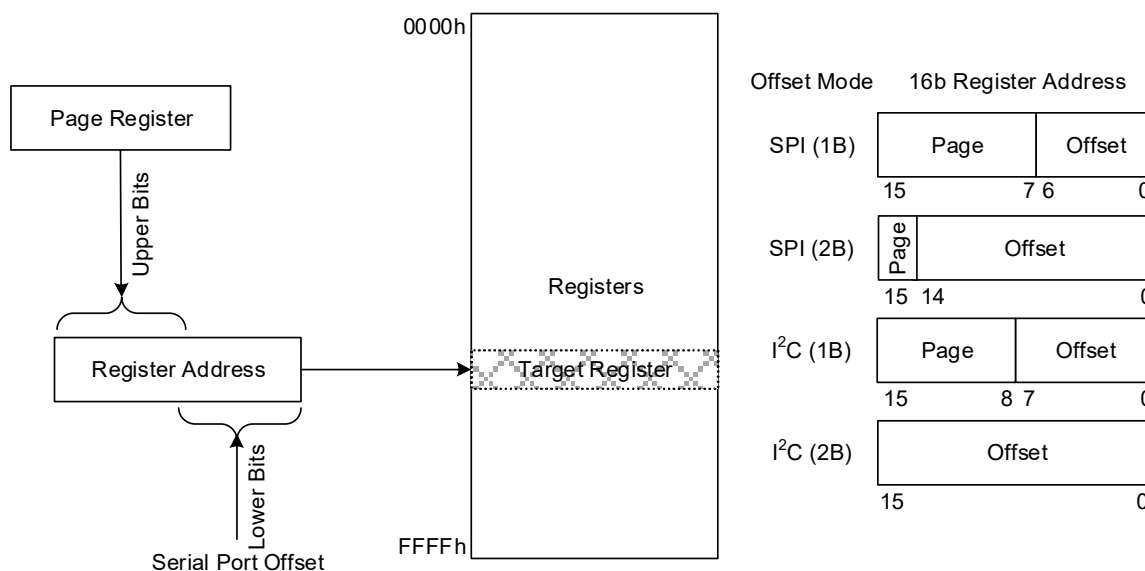

Figure 19. Register Addressing Modes Using Serial Port
You can choose to operate the serial port providing the full offset address within each burst, or to operate in a paged mode where part of the address offset is provided in each transaction and another part comes from an internal page register in each serial port. Figure 19 shows how page register and offset bytes from each serial transaction interact to address a register within the RC32504A.
The selection of 1-byte (1B) or 2-byte (2B) offset addressing must also be configured using the `ssi_addr_size` register field. These offsets are used in conjunction with the page register to access registers internal to the device (see Figure 19). Because the I²C protocol already includes a read/write bit with the Dev Addr, all bits of the 1B or 2B offset field can be used to address internal registers.
- 1-byte (1B) or 2-byte (2B) offset addressing (`ssi_addr_size`) (see Figure 19)